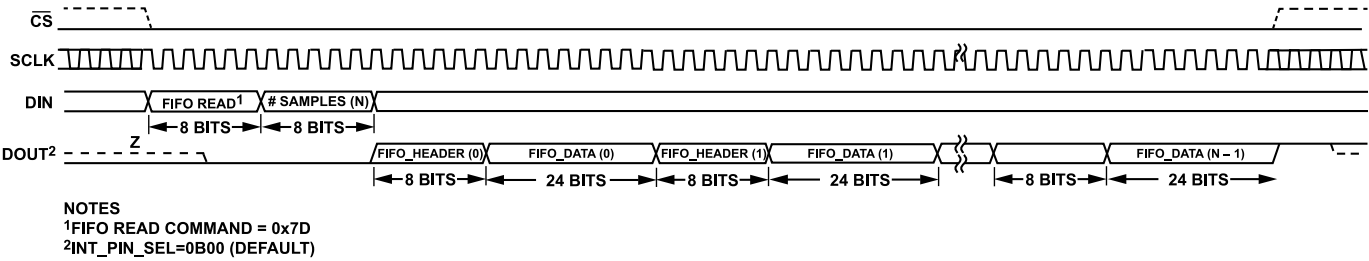
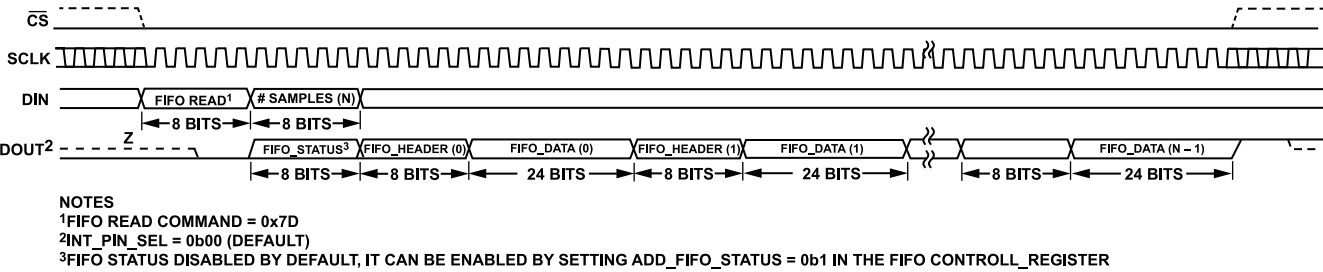

Figure 103. FIFO Readback Default (FIFO_STATUS Append Off and FIFO_HEADER Append On)
Figure 104. FIFO Readback (FIFO_STATUS Append On and FIFO_HEADER Append On)
By default, the FIFO_HEADER is enabled and the FIFO_STATUS append is disabled, so the FIFO readback diagram looks like Figure 103. If the FIFO_STATUS append is enabled, the FIFO readback diagram looks like Figure 104.
The FIFO_STATUS register content (see Table 69) can be enabled to be added and read before the FIFO_DATA and during the # samples (N) byte (see Figure 104), by setting ADD_FIFO_STATUS bit to 1 in the FIFO_CONTROL register (see Table 67). This way, the user can detect an error earlier on and abort the FIFO_DATA readback.